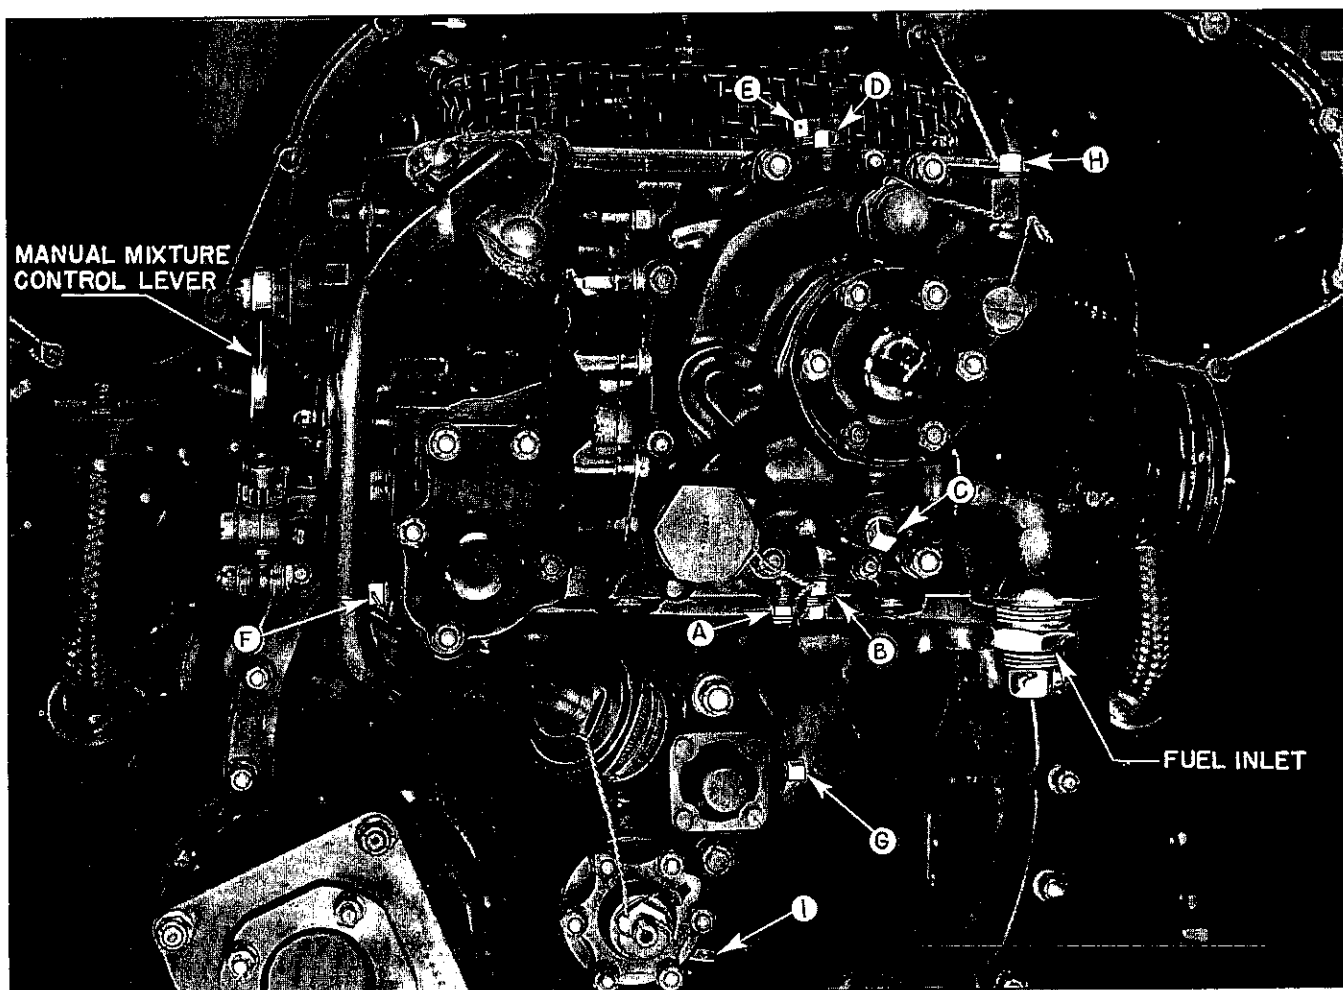

Figure 28—Guide to Plugs and Fittings for Preparing Carburetor for Storage.
(*Note e.*) Remove mixture thermometer connection plug (1 in Figure 28) in supercharger inlet cover. Insert spray gun in that opening
3. Remove the three fuel drain plugs A, B, and F, and the fuel inlet plug (Figure 28). Allow all gasoline to drain. Replace drain plugs and the fuel inlet plug temporarily.
4. Remove pipe plugs D, E, G, and H (Figure 28) and install in place of plug E a No. 4 Weatherhead fitting. Then thru this fitting, inject oil conforming to Grade 1065 A, Spec. No. AN-VV-O-446. The pressure applied to the fuel chamber or passages should